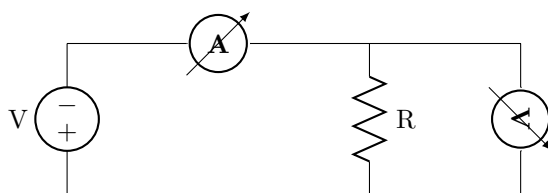

Figure 2: Circuit diagram of the experimental setup.
1. Connect the ammeter, voltmeter, and power supply to the resistor (Figure 2). *Ask the TA if you're in doubt*